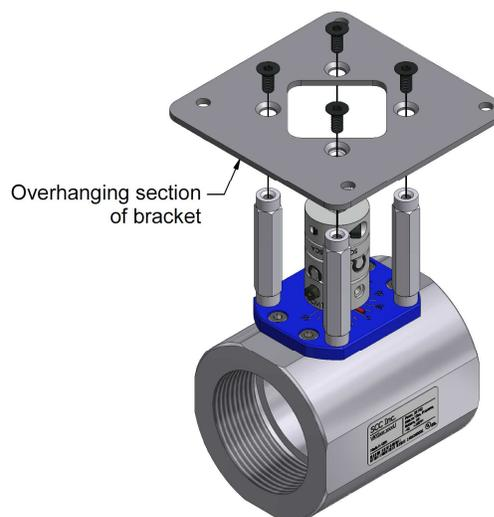

Figure 4: Mounting Bracket Installation
3. Place a small amount of blue Loctite on the end of each of the (4) M6 x 14mm flat socket head screws. Using a 4mm hex key, fasten the mounting bracket to the top of the standoffs as shown in Figure 4 below. Take care to attach the bracket in the desired orientation. The overhanging section of the bracket will face the same way as the aluminum base on the SQM5 actuator.